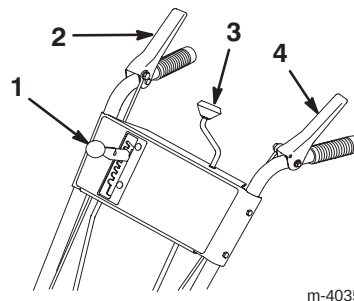

Figure 7
2. Move the speed selector (Fig. 7) on the control panel to the R_2 (Reverse) position.